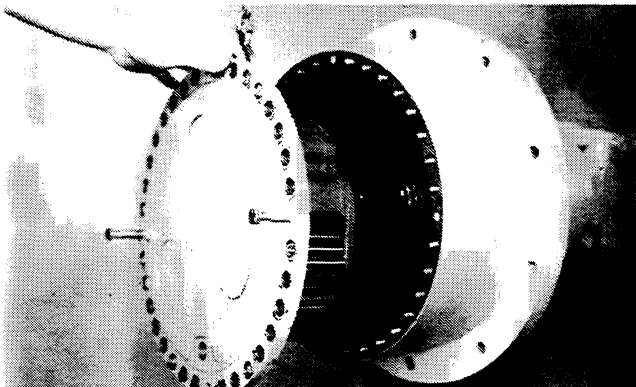

Figure 2:
4. Attach a hoist and remove the planet carrier assembly (Fig. 2).